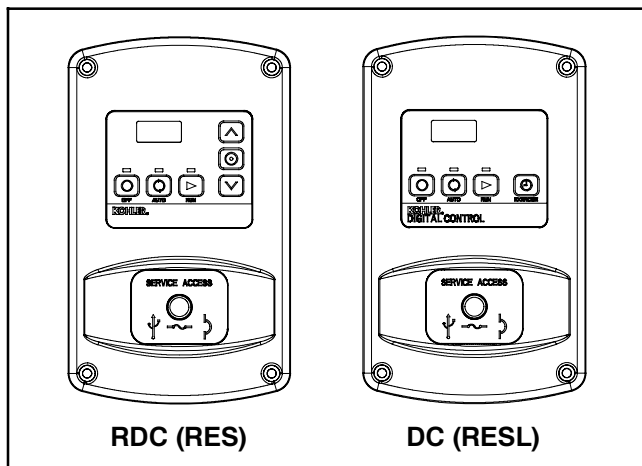

Figure 1-1 Controllers
RES models are equipped with the Residential Digital Control (RDC). RESL models use the Digital Control (DC). See Figure 1-1. Controller features include: